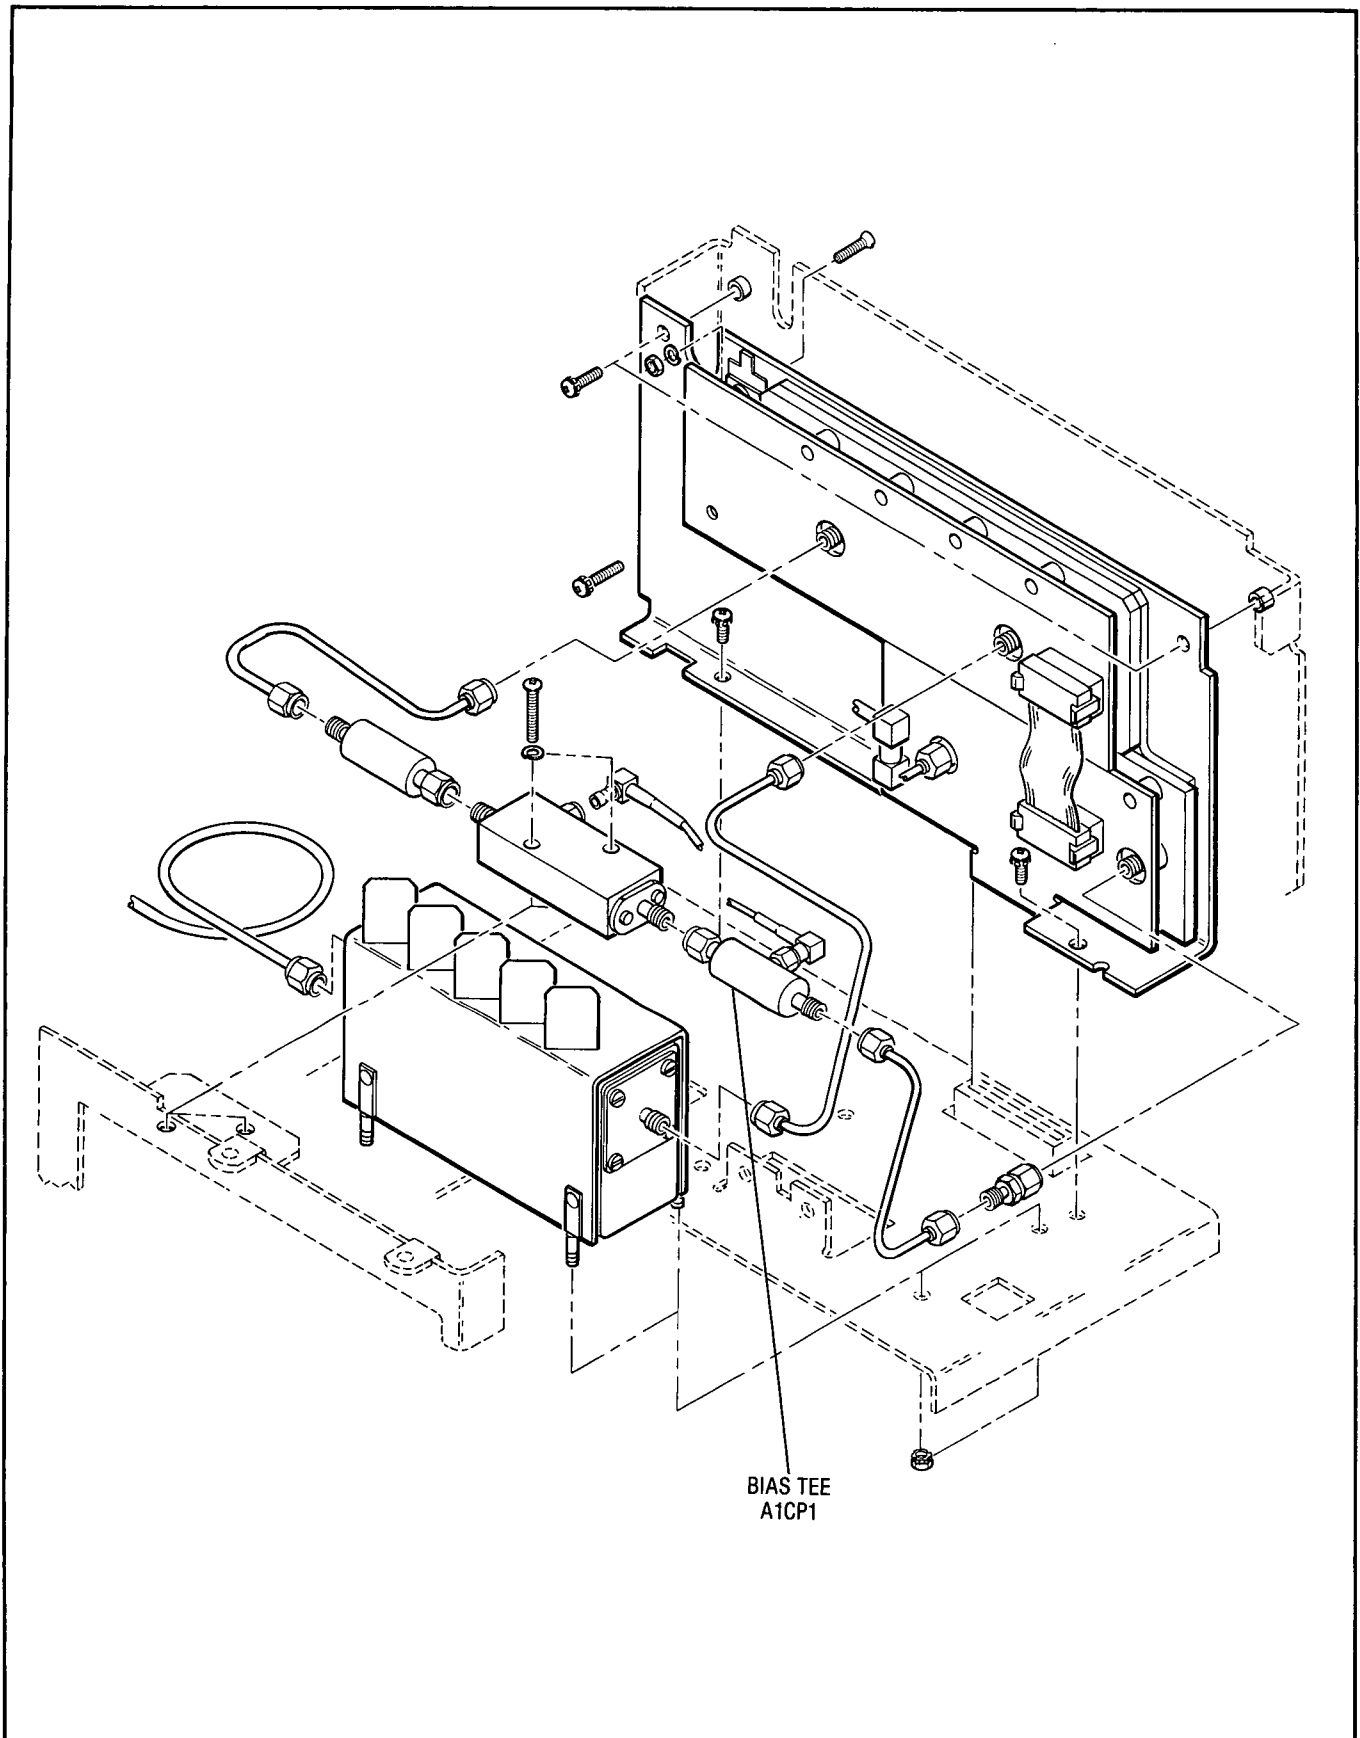

Figure 8-56. Bias Tee
21. Set Both LINE switches to OFF then remove the bias tee A1CP1 (see Figure 8-56). Using the DVM, measure the resistance between: